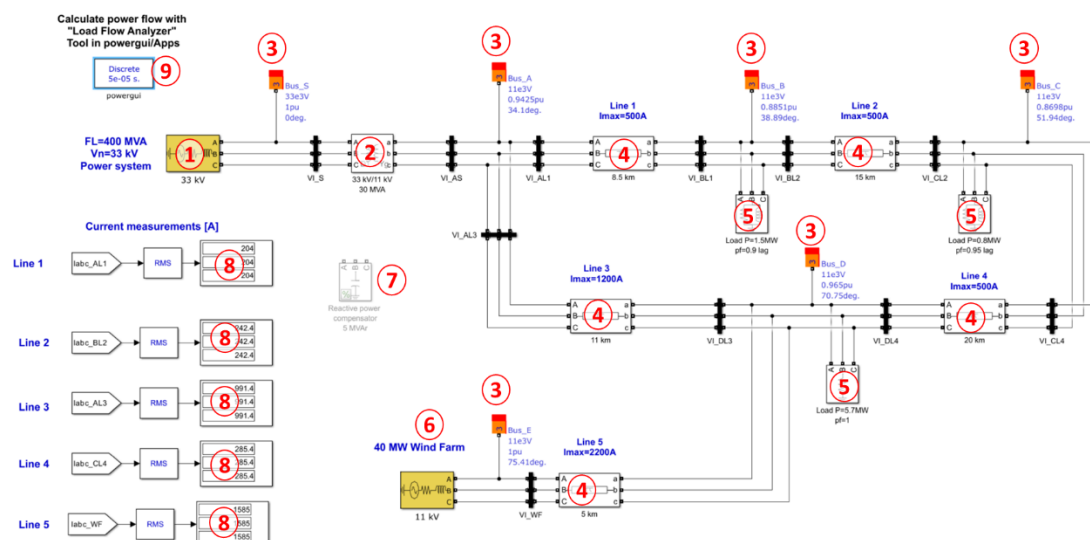

Figure 1. Test System in Matlab/Simulink
The key components of the test system (shown in Figure 1) include:
1. With Test System in Figure 1 open, double-click on “Powergui” component. In the Apps tab identify “Load Flow Analyzer”
5. Further, to measure currents in the distribution lines (e.g., to compare the flowing current against the line thermal limit) a short simulation can be performed, and the RMS values of the measured currents should appear in the display boxes 8 (refer to Figure 1).
2. **Line current:** The maximum thermal capacity (i.e., maximum current I_{max}) must not be exceeded for any of the lines in the network. The values of I_{max} for each line are shown on the network diagram in Figure 1.
In this part you will perform a load flow calculation for a system without any additional/embedded generation (this is a base case you will use for initial assessment and comparison). The “45 MW Wind Farm” should be disabled (commented out). The solution should only include the existing loads (marked as 5 in Figure 1). Your report should include bus voltages, injected/consumed powers at each bus, the currents and real power losses in each line, the total real power losses in the grid and the apparent power flowing through the transformer. It is suggested to use Table 1 and Table 2 as a template for reporting your results.
Note: There is more than one way of establishing the values of currents and power losses in the lines as those are not explicitly provided with the power flow solution. You utilise the detailed results from the Load Flow Analyzer report and/or by perform current measurements directly in the network diagram (blocks marked 8 in Figure 1) following a short time-domain simulation (e.g., 0.5s). Whichever way you perform your analysis, always explain your method, state your assumptions, and provide example calculations.
1. By looking at the results from section 3.2 select the most suitable Bus to which the reactive power compensating capacitor (marked as 7 in Figure 1) should be connected.